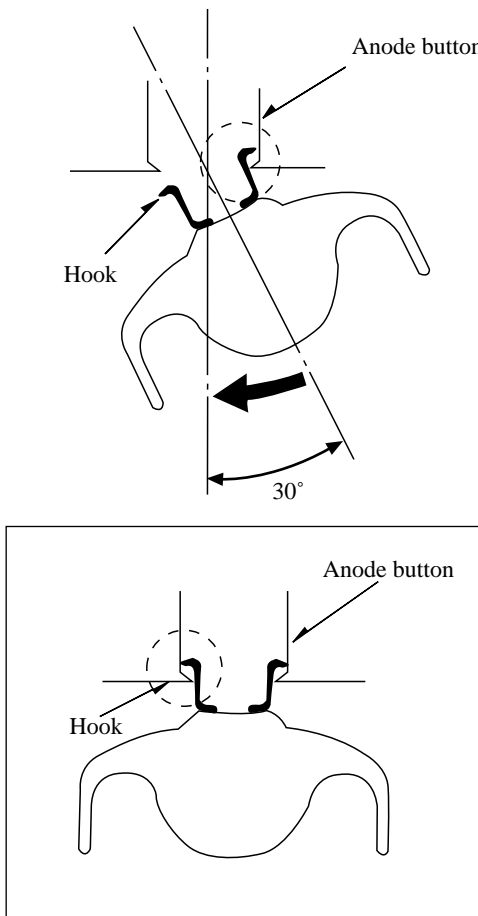

Fig. 3-7
- (7) Apply the hook on the other side to the anode button as shown in Fig. 3-7.